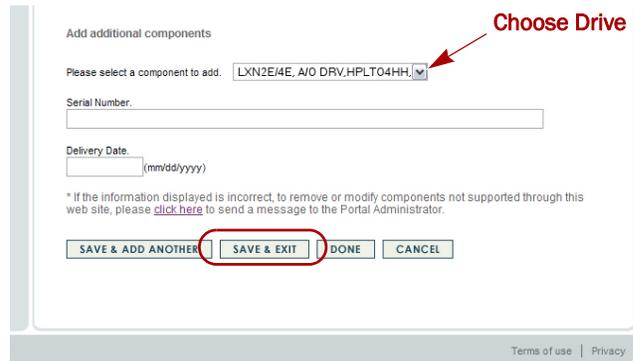

Figure 2. Add Component Knowledge Base Page
6. From the drop-down component list (Figure 2), select the **drive assembly** being installed.